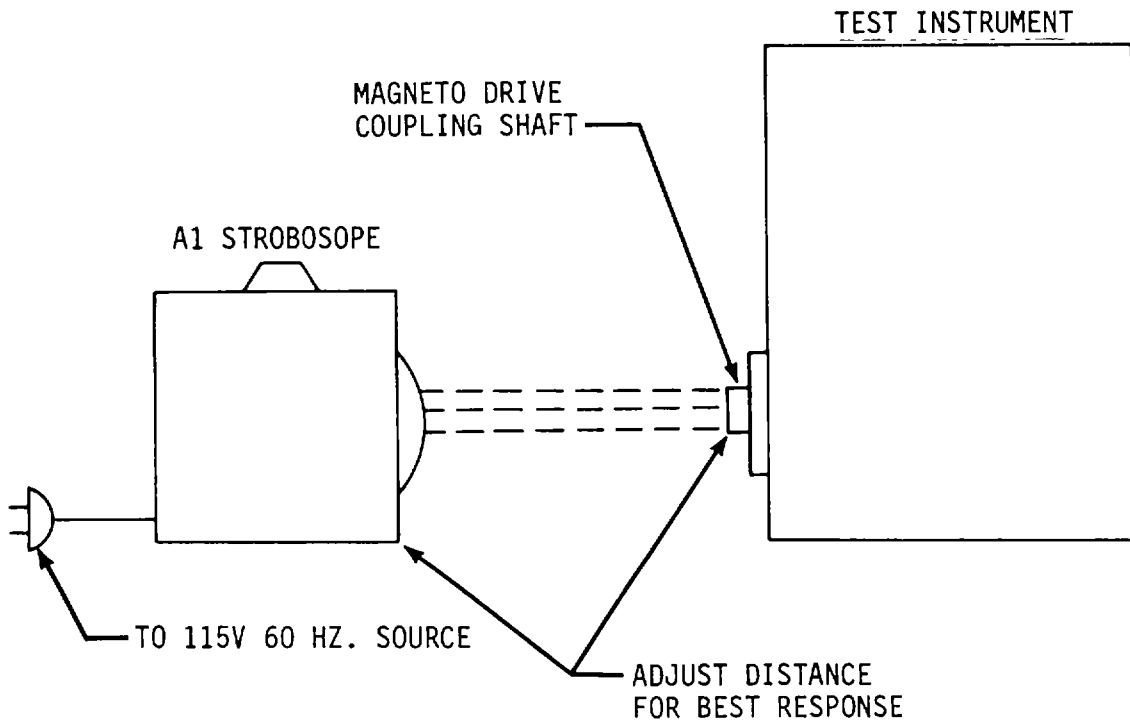

Figure 4-1. Tachometer Indicator Check Equipment Setup
c. Set test instrument DRIVE ROTATION switch to clockwise (CW) position.
- e. Connect test equipment as shown in figure 4-1.